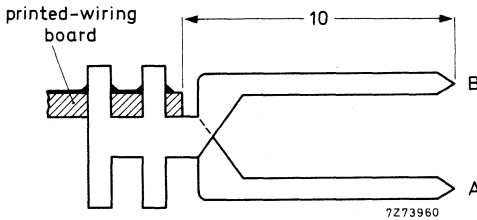

Fig. 5.
- If these switches are provided with pins, these pins are in line in position B as indicated in Fig. 5.
- If the switches are provided with pins, these pins are staggered according to Figs 5 and 6, to allow enough room for wire-wrapping tools.